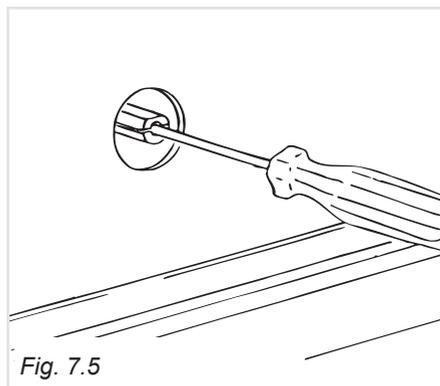

Fig. 7.5
- With a small flat screwdriver turn the screw inside the tap rod to the correct regulation (fig. 7.5).